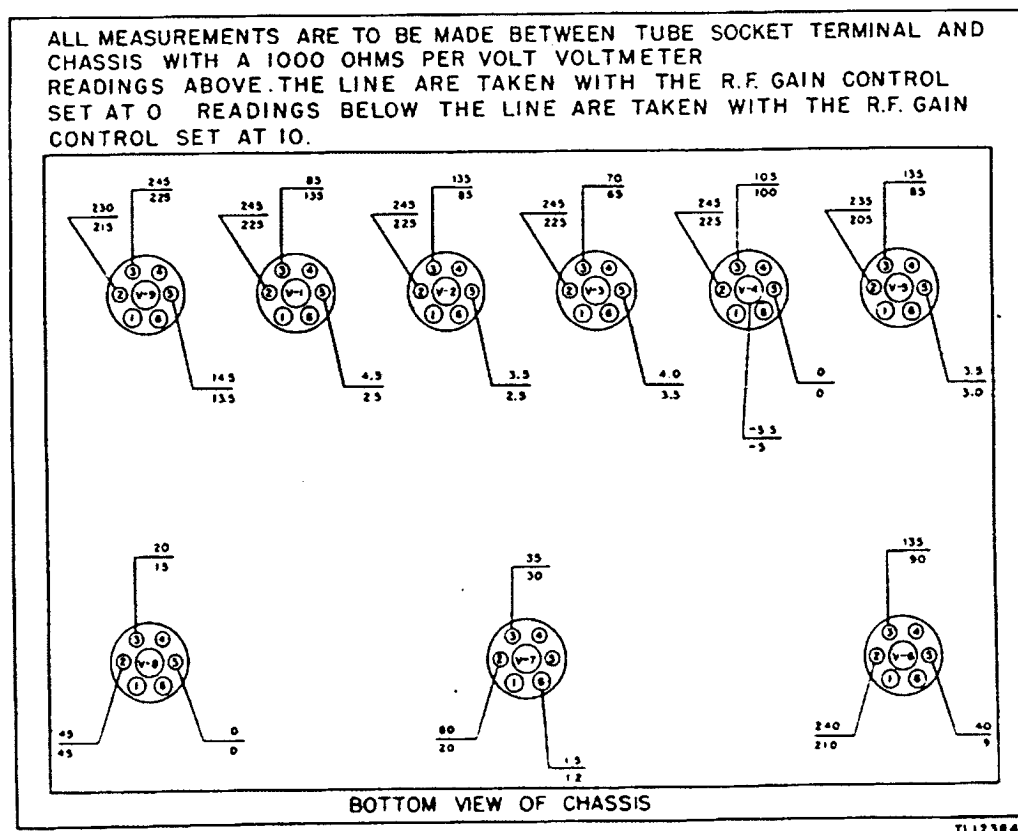

Figure 32. Radio Receiver R-140/F5M-1 (with glass tubes), and National HRO-M type receivers—tube socket voltage diagram.
A check of the voltages between each tube socket terminal and ground (chassis) is an efficient method of isolating a defective stage. A diagram to show tube socket voltage measurements is given in figure 32 for the HRO-M series receivers and in figure 33 for the HRO-5 series receivers. These diagrams apply also to Radio Receiver R-140/FSM-1. The readings are to be made under the following conditions.
c. Values given in figures 32 and 33 are for two conditions:
(1) Readings above the line are taken with the R.F. GAIN control set at 0.
(2) Readings below the line are taken with the R.F. GAIN control set at 10.